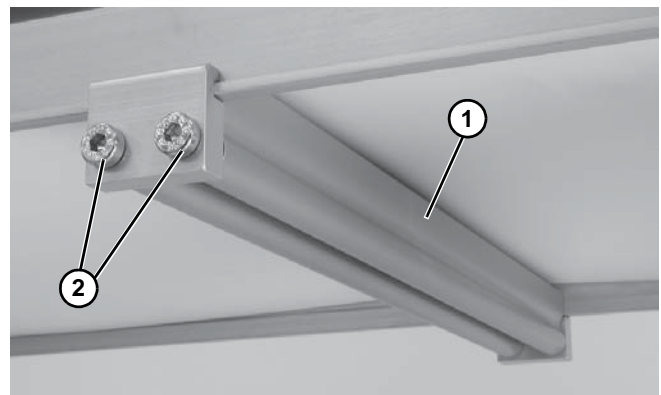

Figure 16
3. Install roller assembly as shown (Figure 16, item 1). Tighten screws (Figure 16, item 2) to 7 Nm.